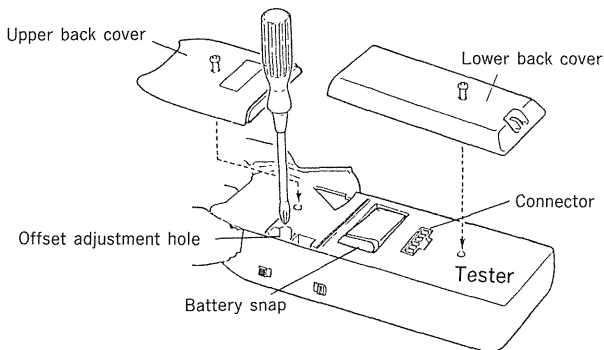

Fig. 8
- Insert a cross-head screwdriver into the hold (as shown figure 8.) and adjust so that display reaches 0.00.